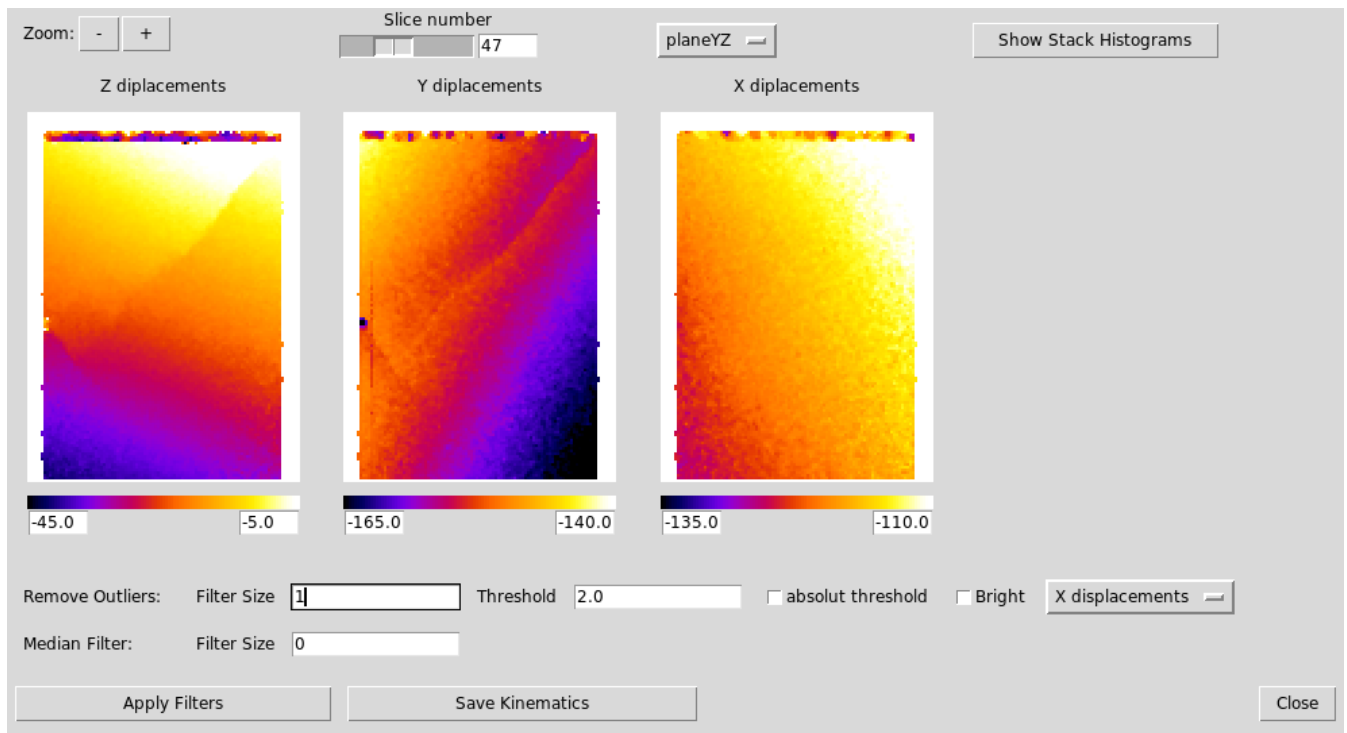

Figure 6.4: GUI - Post Process, show displacements window - vertical slices
**Slice orientation menu** volume can be sliced in three direction (figure 6.4 shows vertical slices on YZ plane)